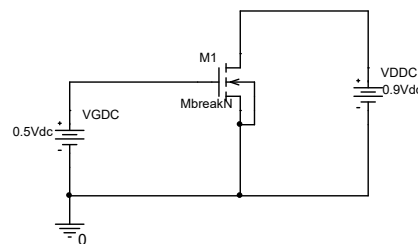

Figure 1: Circuit for simulating the DC characteristics of the transistor.
- Start the Orcad Capture CIS program and create a new project named "Project01". Draw the circuit shown in Fig. 1 with Capture. Use the PSpice MOS model "MbreakN" from the BREAKOUT library for the MOS transistor. This is a modifiable NMOS model. Modify the name of transistor from "MbreakN" to "nmos\_tsmc".1 Change also the names and values of voltage sources as shown in the schematic.